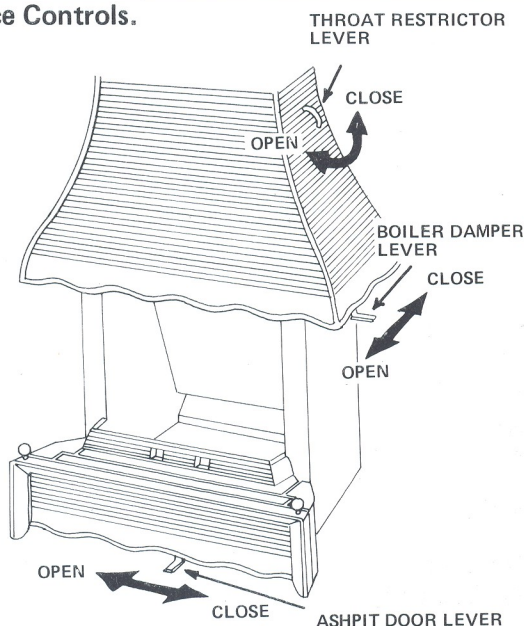

Fig. 3
- c) Open the throat restrictor fully by pulling the canopy lever on the RH side forward. See Fig. 3. Slide ashpit door lever at bottom of fire to the left (Fig. 3) as far as possible to provide primary air for combustion. Push the boiler damper lever backwards (Fig. 3) to close off the boiler flueway.
To control the rate of burning, slide the ashpit door lever left to open (maximum burning) and to the right to close (minimum burning) Fig. 3. For maximum efficiency, keep the firebox well
When central heating is required, pull the lever located below the right hand side of the canopy forward to open the boiler flue and push backwards to close the boiler flue. See Fig. 3.
To conserve heat and comfort, an operative lever projecting out of the canopy right hand side operates an adjustable throat restrictor with the numbered positions 1 to 4. See Fig. 3.